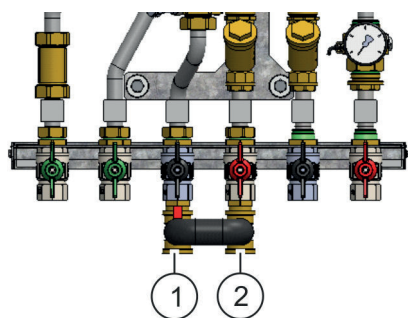

Fig. 26: Heat supply flow and return lines
1. → Connect the heating return main supply line to the primary connection for the heat supply return line (Fig. 26/1) and tighten it by hand.
2. → Connect the heating flow main supply line to the primary connection for the heat supply flow line (Fig. 26/2) and tighten it by hand.